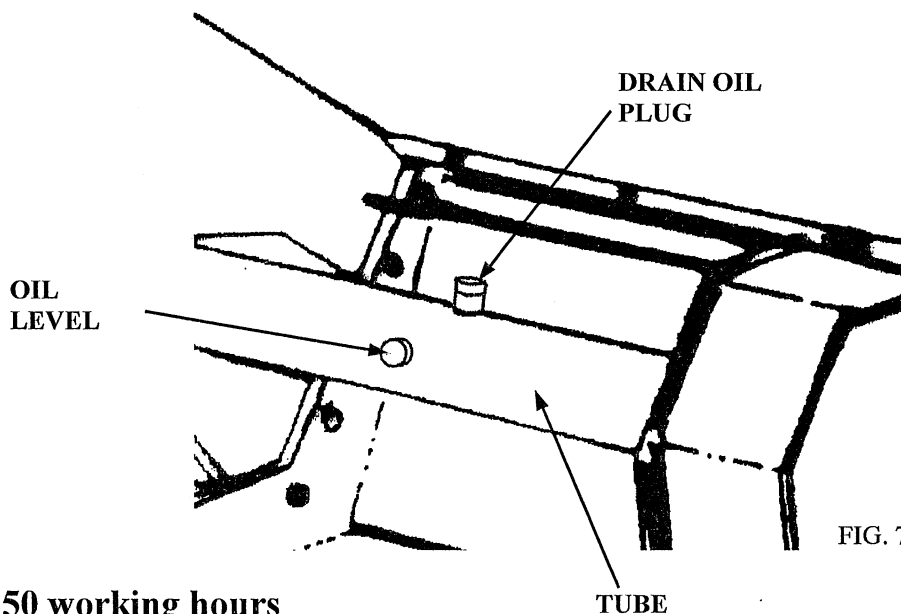

FIG. 7
- Check correct oil level in the tube. To proceed, remove filler and oil level plug (fig. 7). Add oil through the filler plug until it starts running out of the oil level plug. Screw the filler and oil level plugs back in their corresponding places.